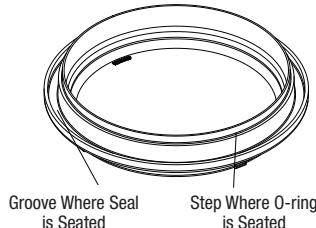

Figure 16. Placement of Blue Pressure Test O-ring
2. Place the blue O-ring on the step located $\frac{1}{4}$ " from the bottom of the lid. See *Figure 16*.